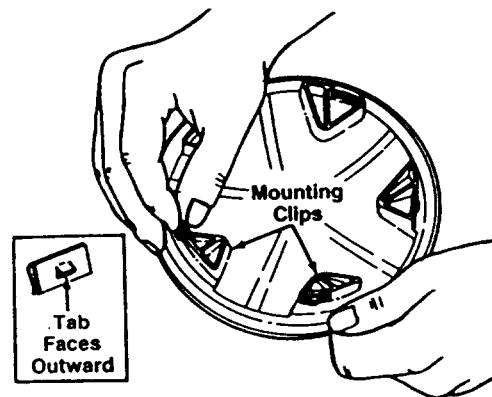

FIGURE 8
- a. Slide five mounting clips on each hub cap as shown in figure 8, with the tabs on the mounting clips facing outward.